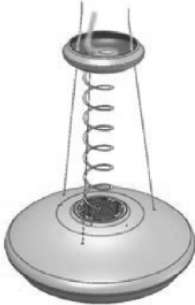

FIG.5
- › Place the ceramic cover for the ceiling plate over the hood and put the steel cables through the three holes in the ceramic body, the power cable should be put through the central hole of the ceramic (Fig.5).